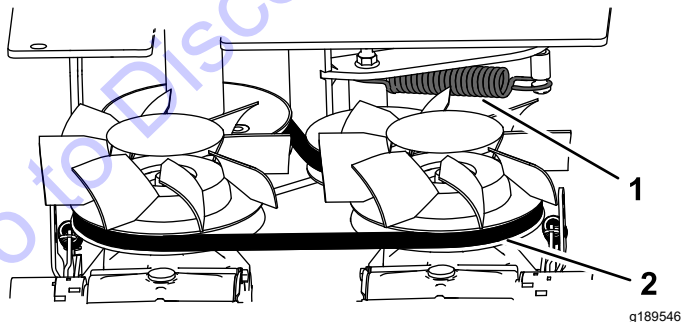

Figure 42
4. Inspect the belt (Figure 42). Replace the belt if it is worn; refer to Replacing the Drive Belt \(page 31\).
1. Rear bolt (2)
3. Side bolt (4)
6. Remove the extension spring (Figure 42).
11. Install the extension spring (Figure 42).